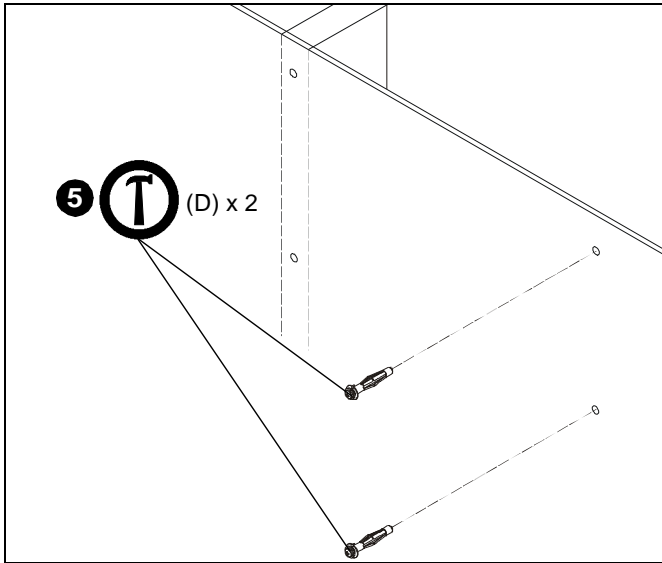
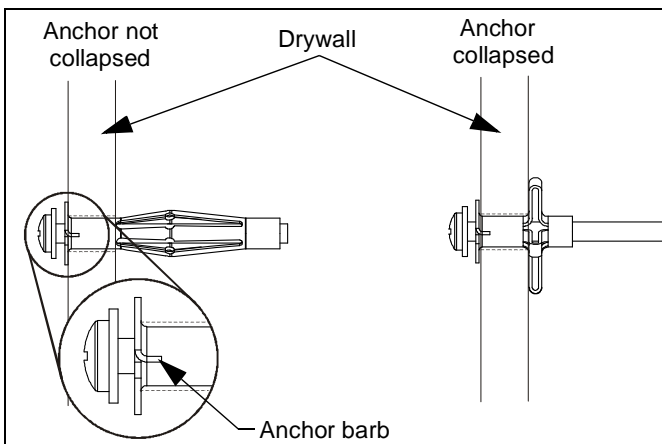

Figure 3
Figure 4
- Gently tap two anchors (D) into anchor holes. Anchor barbs should be fully engaged in drywall. (See Figure 3) and (See Figure 4)
- Using Phillips screwdriver, tighten anchor screw until anchor has fully collapsed against back side of drywall. (See Figure 4)